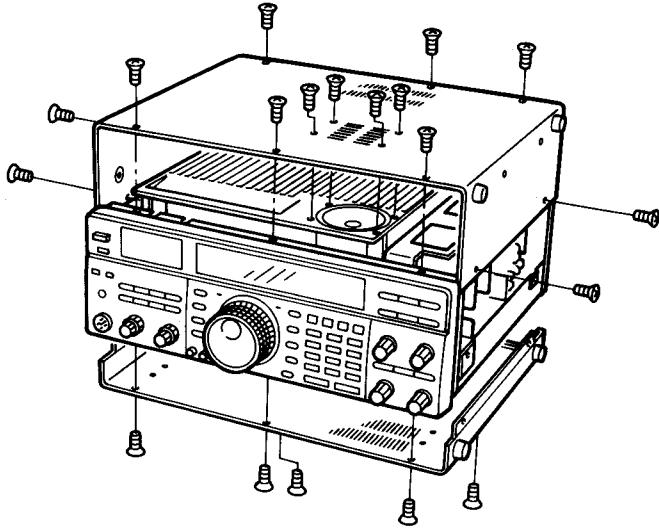

Fig. 1
1. Remove 19 screws (black, 8 mm) as shown in Fig. 1, to remove top and bottom covers.